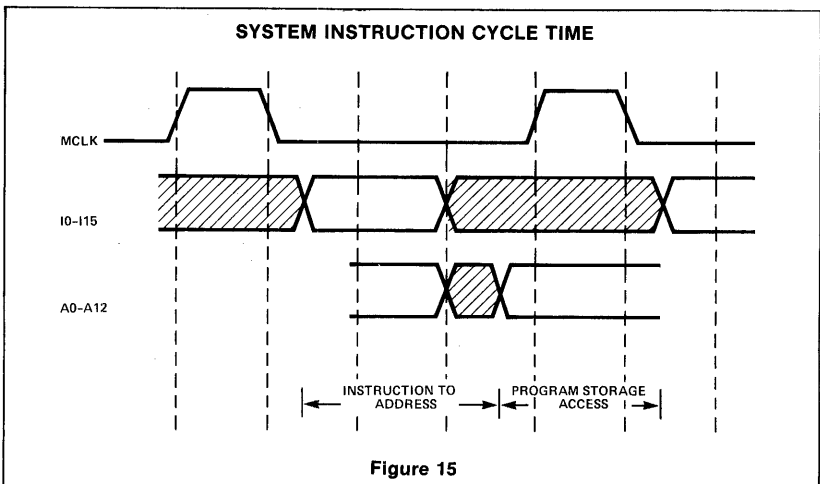

Figure 15
3. Program storage access time and instruction to address  $\leq$  instruction cycle time (Figure 15).